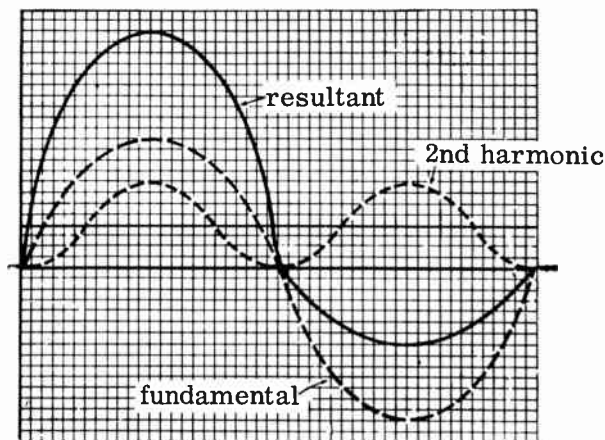
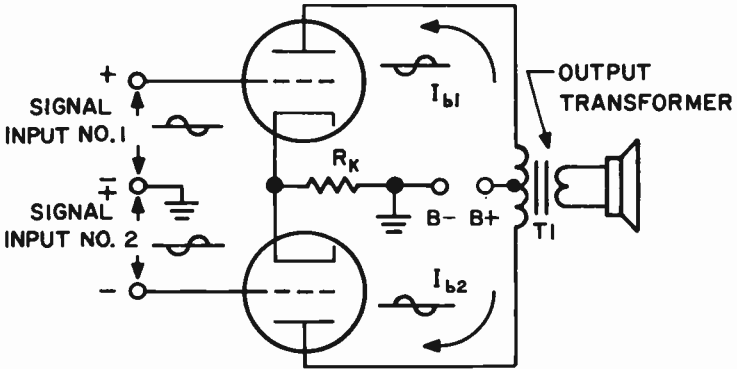
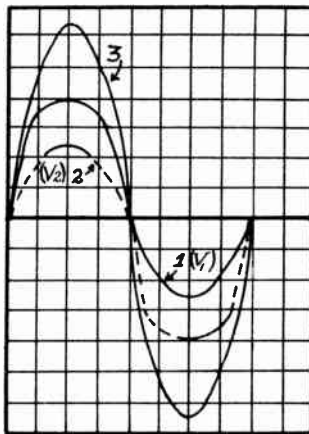

FIG. 9-17. SECOND HARMONIC DISTORTION.
FIG. 9-21A. CLASS A PUSH-PULL AMPLIFIER.
FIG. 9-21B. PUSH-PULL OPERATION ELIMINATING SECOND HARMONIC.
Fig. 9-17 shows the effects of second harmonic distortion on a signal. The resultant signal comes about by adding each point of the fundamental wave to its "vertical counterpart" on the second harmonic wave. The resultant wave is not symmetrical above and below the center line and is therefore distorted.
**CLASS A PUSH-PULL AMPLIFIER.** Fig. 9-21A illustrates two tubes in push-pull Class A operation. Fig. 9-21B illustrates, graphically, the undistorted output of this arrangement. A Class A push-pull amplifier differs from a Class B push-pull amplifier in that both tubes in the Class A system conduct current continuously. Both tubes combine their outputs during the positive as well as the negative cycles of the signal. In Fig. 9-21A, wave 1 and wave 2 represent the distorted outputs of V1 and V2 respectively. They are unsymmetrical (recall Fig. 9-17). These two distorted curves combine together, point by point, to produce wave 3, an undistorted output wave form. In reality, the second harmonics (which cause the distortion) are 180° out of phase with each other in the transformer primary and consequently, cancel each other out. Push-pull operation eliminates even (2nd, 4th, 6th, etc.) harmonic distortion, thereby improving the fidelity of the amplifier over that obtainable from one tube (single-ended) operation. A good audio system always uses push-pull amplifiers in its last stage.